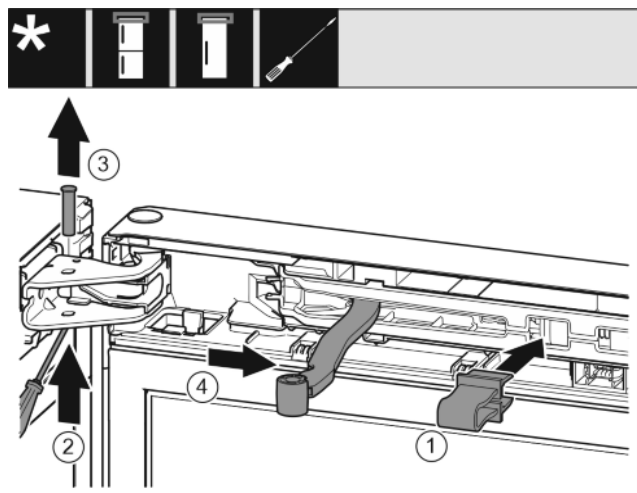

Fig. 7
- Engage the locking device in the opening. Fig. 7 (1)
- Push out the bolt with a screwdriver. Fig. 7 (2)
- Remove the bolt upwards. Fig. 7 (3)
- Turn the hinge in the direction of the door. Fig. 7 (4)